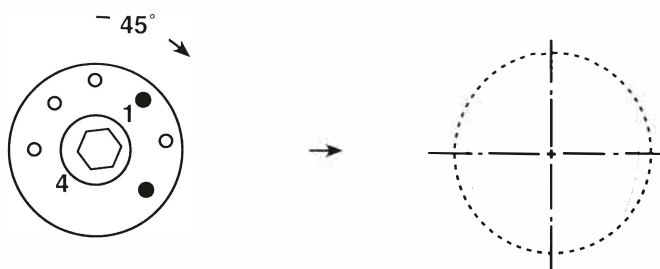

Fig. 6.
1. To complete an octagon, two further pairs of mounting holes in the end of the workpiece are required. (Fig. 6 & Fig. 7)